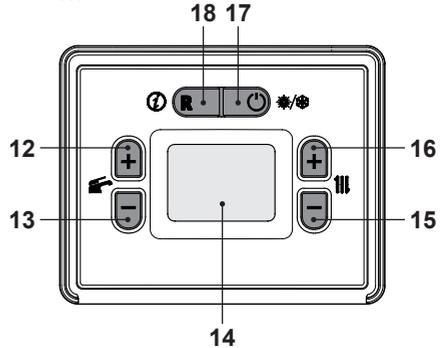

Figure 6.6
- Press 17 (Figure 6.6) until the message **OFF** appears on the LCD display (Figure 6.5).